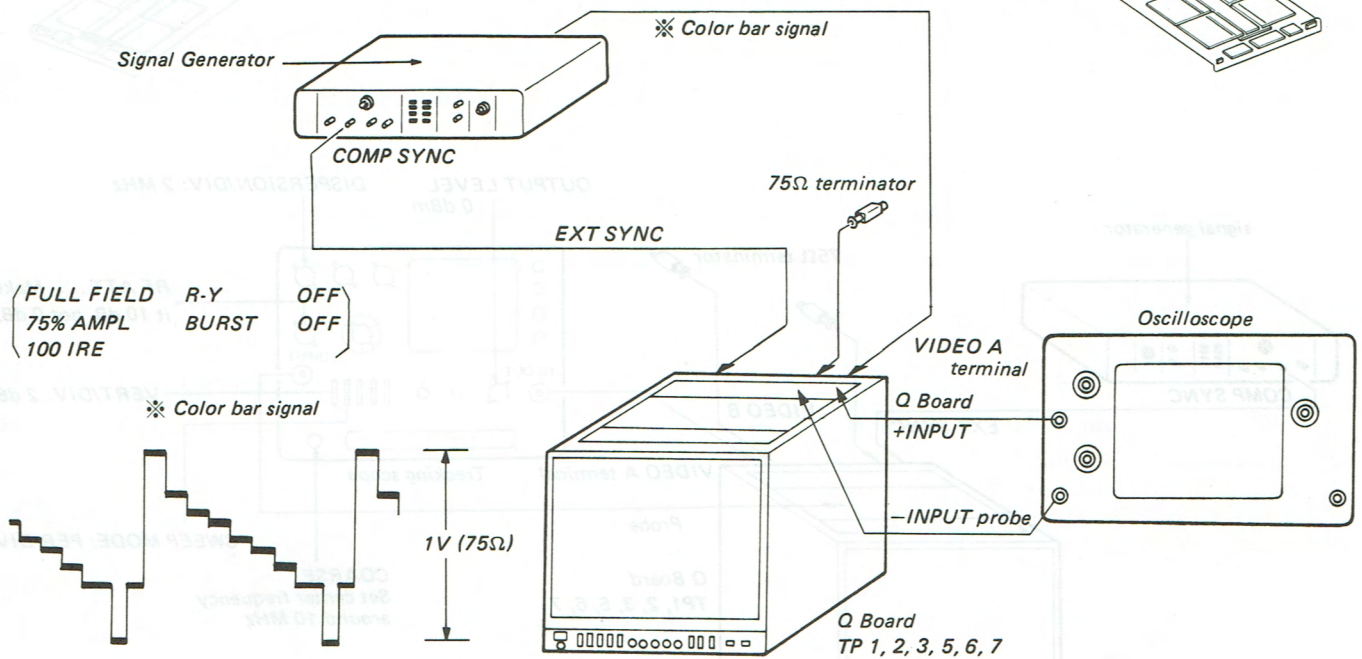

Fig. 3-1.
1. Connect as shown in Fig. 3-1.